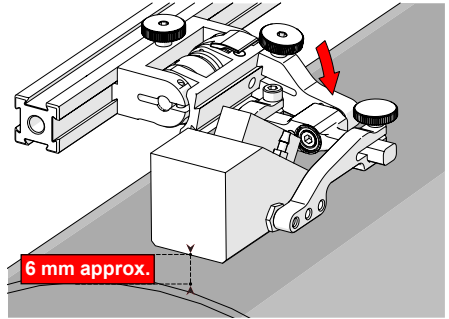

Fig. 73 - Lower to scanning surface
2. Push the probe holder yoke down toward inspection surface until the wedge is approximately 6 mm ($\frac{1}{4}$ in) above the inspection surface (Fig. 73).